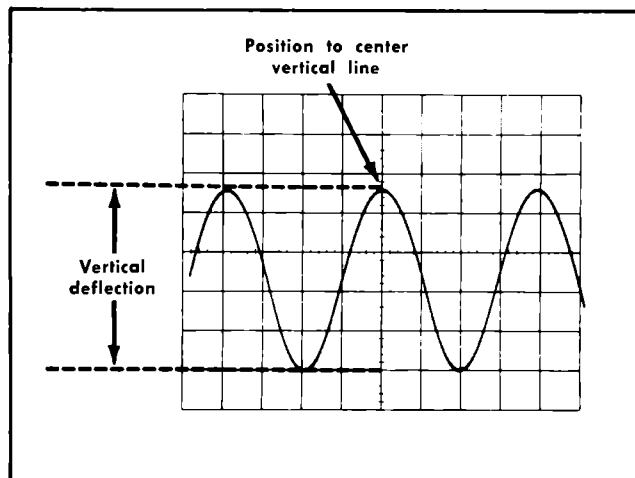

Fig. 2-6. Measuring peak-to-peak voltage of a waveform.
4. Turn the vertical Position control so that the lower portion of the waveform coincides with one of the graticule lines below the center horizontal line, and the top of the waveform is in the viewing area. Move the display with the horizontal Position control so that one of the upper peaks is aligned with the center vertical reference line (see Fig. 2-6).